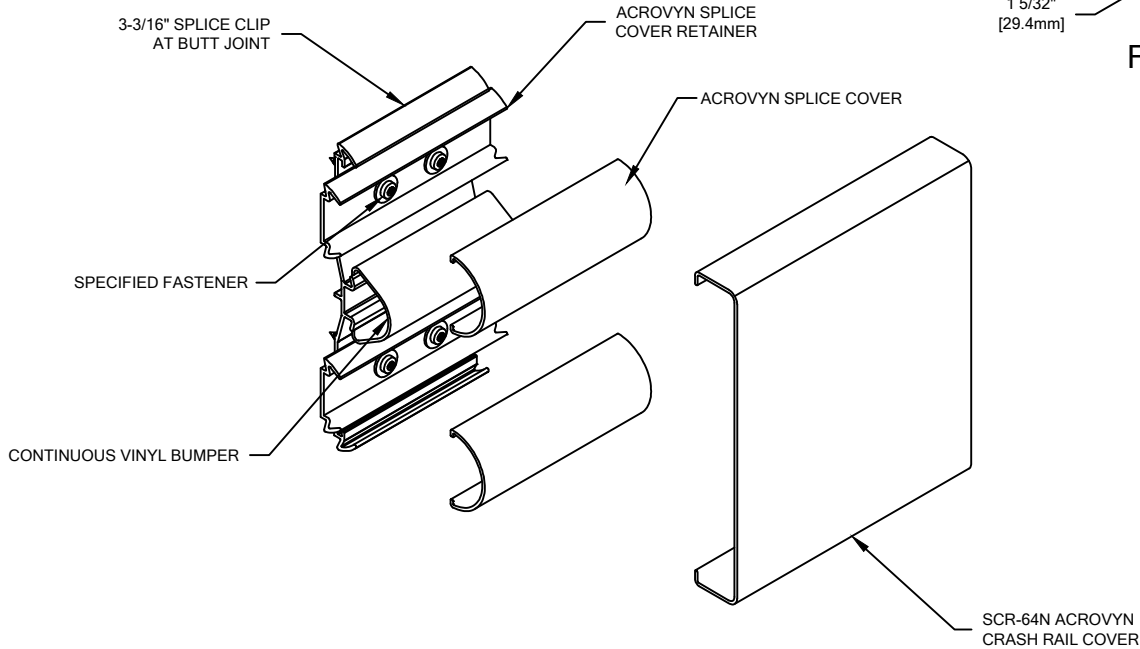

FIGURE 3.
7. ATTACH THE ACROVYN SPLICE COVERS TO THE APPROPRIATE RETAINERS BY ALIGNING THEM WITH THE TOP OF THE RETAINERS AND SNAPPING THEM ONTO THE BOTTOM SECTION OF THE RETAINER. (SEE FIGURE 3)